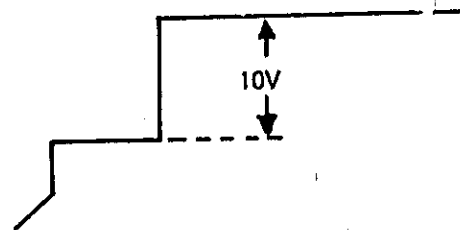

Figure 5-2. Floodgun Adjustment Waveform
e. Adjust Model 183A/B SCALE control to observe waveform on monitor oscilloscope similar to that in figure 5-2.
f. Adjust A13A1R55 in lower, right-hand corner of A13A1 for 10V pulse (2-division display) as shown in figure 5-2.